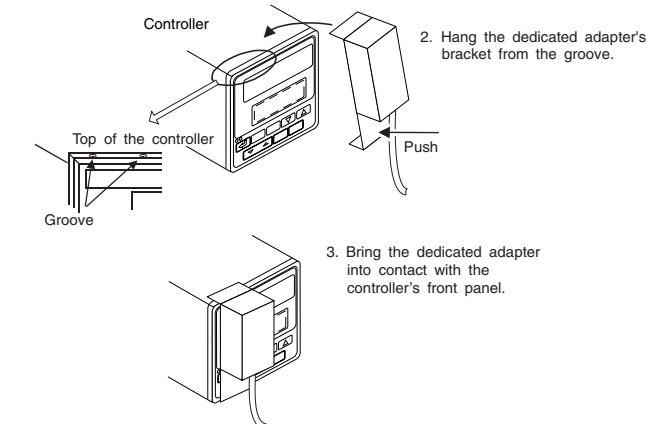

Figure 4 Attaching the Dedicated Adapter
2. As shown in Figure 4, hand the dedicated adapter from the top groove of the controller.